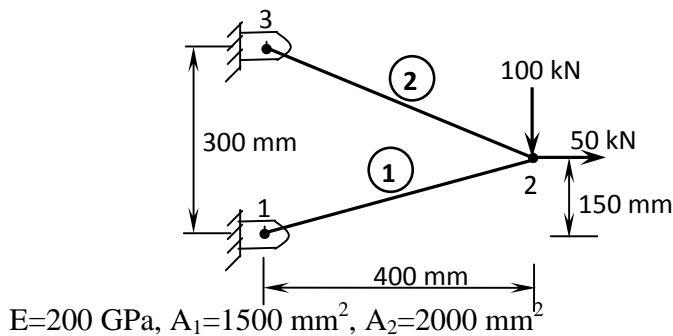

Fig. 2
- 16 For the two-bar truss member shown in Fig. 2, determine the displacement at load point and stresses in each member.